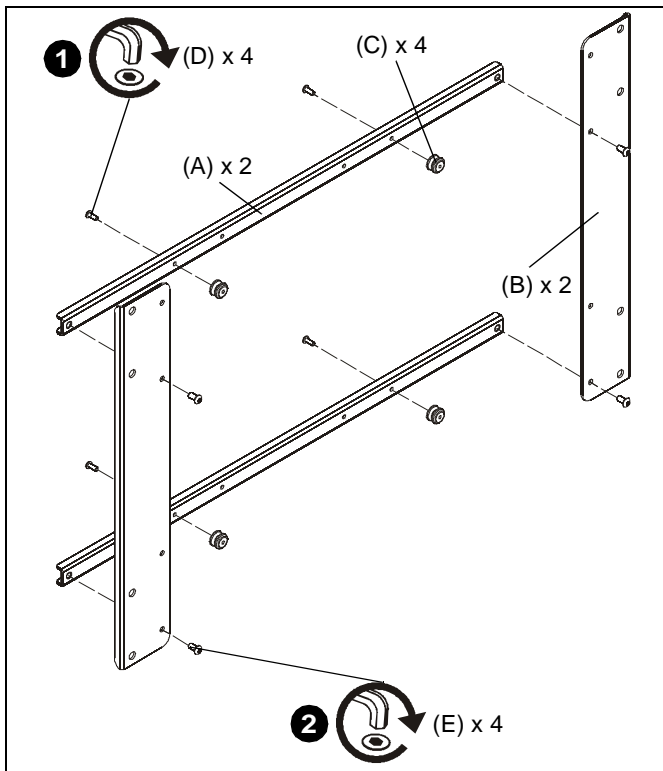

Figure 1
1. Use four #10-24 x 1/2" button head cap screws (D) to connect four mounting buttons (C) to two horizontal brackets (A). (See Figure 1)
2. Use four 1/4-20 x 1/2" button head cap screws to secure two horizontal brackets (A) to two PSB brackets (B). (See Figure 1)
IMPORTANT ! : Use mounting holes shown in Figure 1 in order to achieve a centered mount.